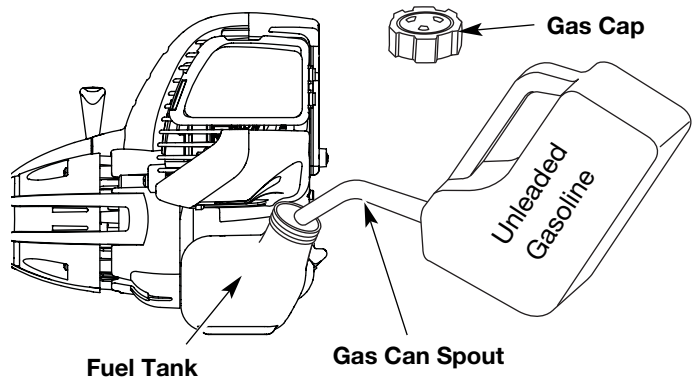

Fig. 8
1. Remove the fuel cap (Fig. 8).